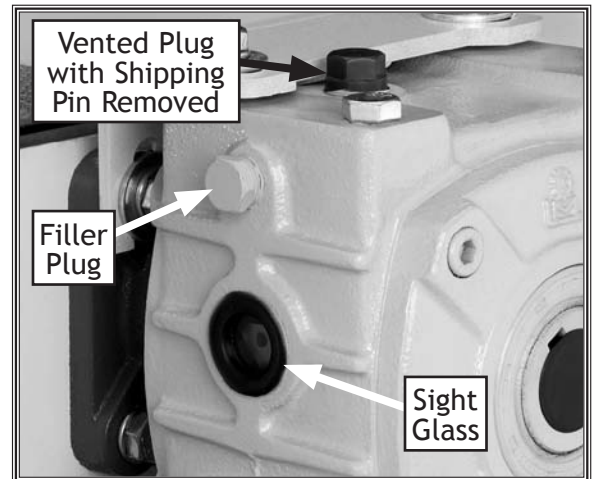

Figure 29. Gear reducer breather and filler plug.
- After the first 300 hours of use, replace the gear reducer (**Figure 29**) lubricant with straight 140W gear oil (available at most automotive parts stores) up to the center of the sight glass. DO NOT use the common 85-140 gear lube as the viscosity is too low and oil can leak past seals.
- After 2,500 hours of use thereafter, replace the gear lube and always clean the vented plug (**Figure 29**) to make sure it vents the gear case.